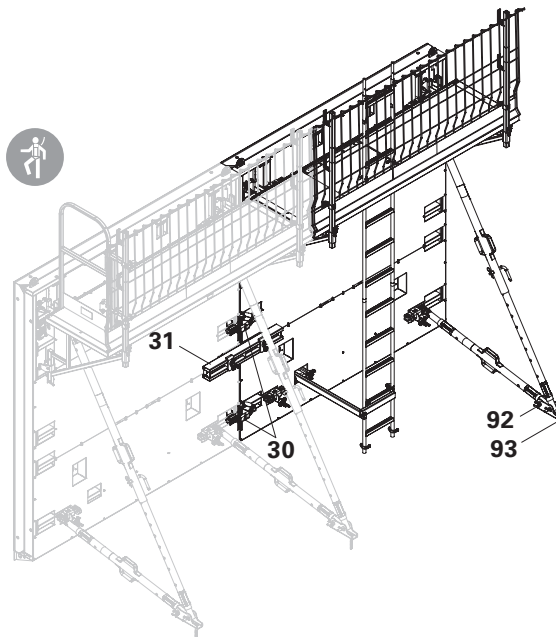

Fig. B6.01
1. Erect second Heated Formwork Unit with the crane and connect by means of the Alignment Couplers BFD (30) and Compensation Walsers MAR (31). (Fig. B6.01)
2. Mount Base Plate (92), e.g. with PERI Anchor Bolt 14/20 x 130 (93).